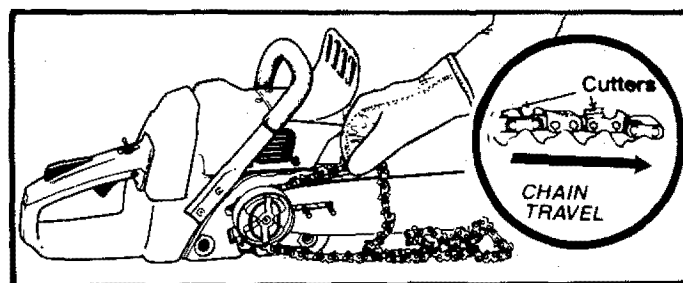

Figure 8
4. Hold chain with cutters facing as shown in Figure 8.
6. Start at the top of the bar and fit the chain drive links into the groove around the guide bar. Figure 8.